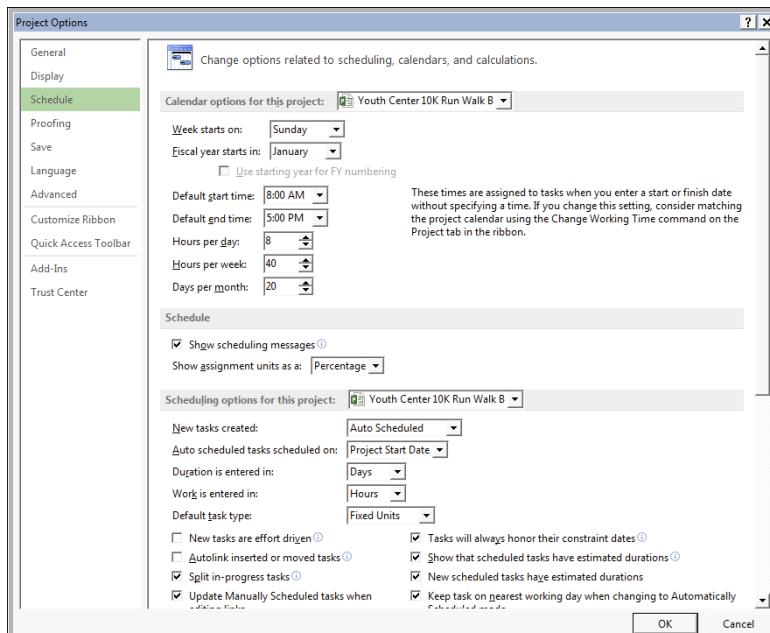

Figure 8-1:
- 2. Click the Schedule category on the left side of the screen, as shown in Figure 8-1.**